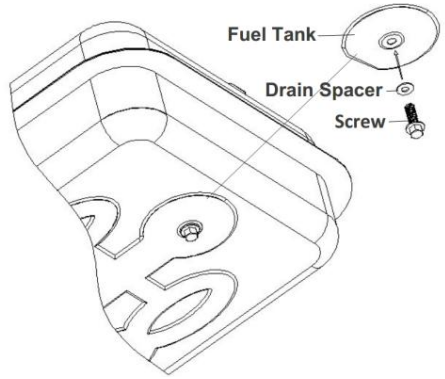

Figure 10. Drain Plug Removal
4. To replace, push the drain head fully into the drain hole and secure by pushing the seal cap fully into the head hole (see Figure 10).